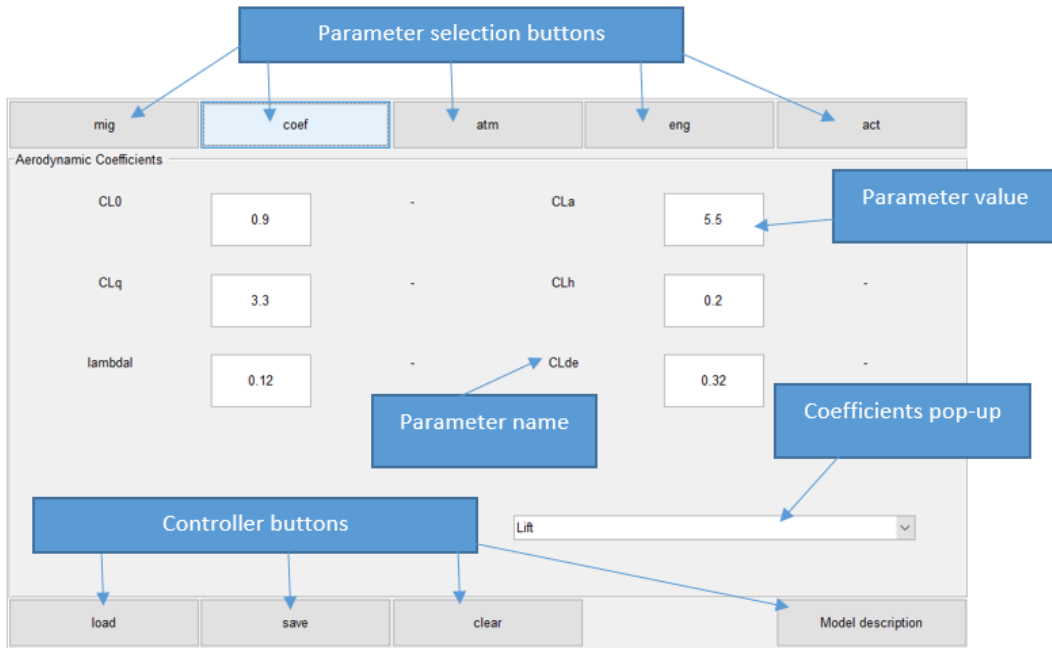

Figure 2: Aircraft Input Parameters Panel
First of all, for create any Aircraft fuzzy model, it should be defined some variables as defined in the *Model Description pdf*. It is important to understand which are the variables composing this system. As shown in figure 2, there are some components in these panel which are divided by Selection buttons, controller buttons and others.
- **coef**: Aerodynamic aircraft coefficients. There is a coefficient pop-up added to the panel, any type of coefficient can be chosen. In figure 2, this case is shown.